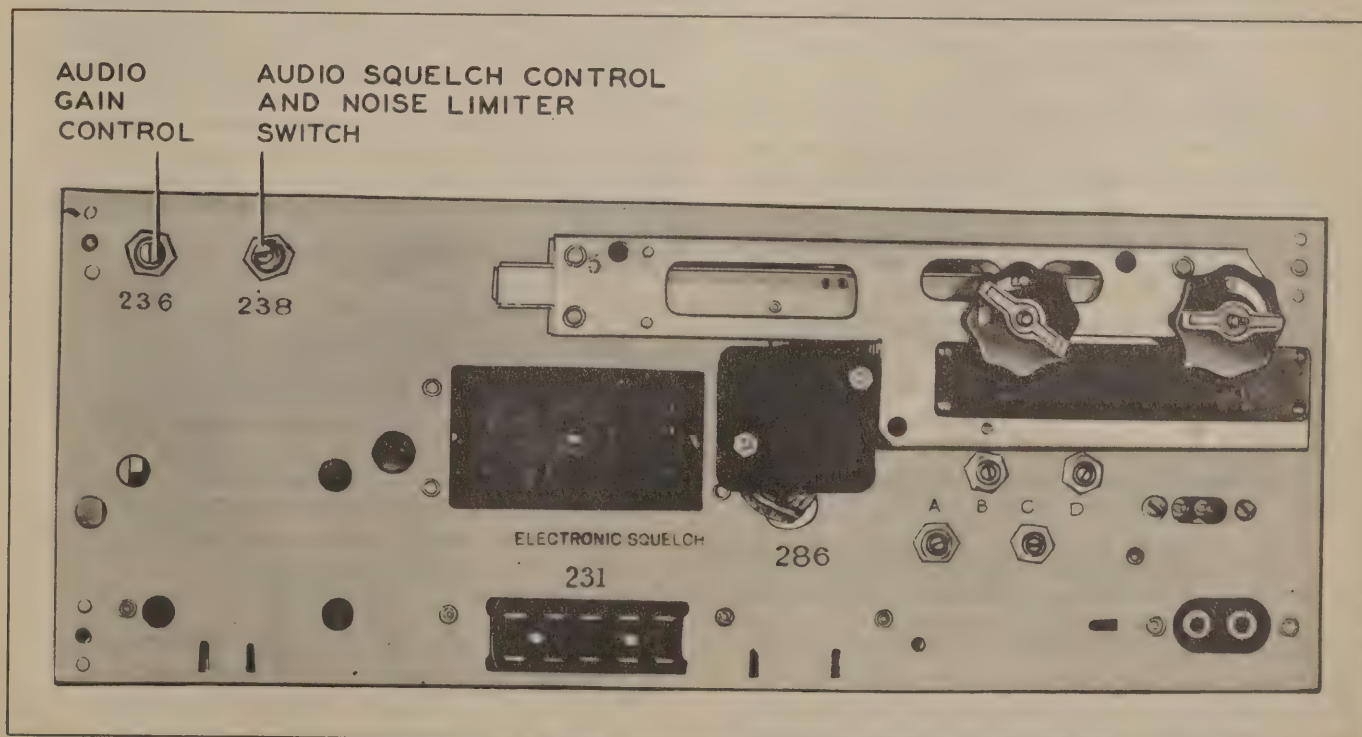

Figure 5-12. Radio Receiver BC-624-C—Top View
(g) Connect a suitable headset across the audio output terminals on the jack box. Rotate the receiver "AUDIO" and "RELAY" or "SQUELCH" (see fig. 5-12) controls to their maximum clockwise rotation positions.
(13) "RELAY" OR "SQUELCH" CONTROL ADJUSTMENT. (See figure 5-12.)